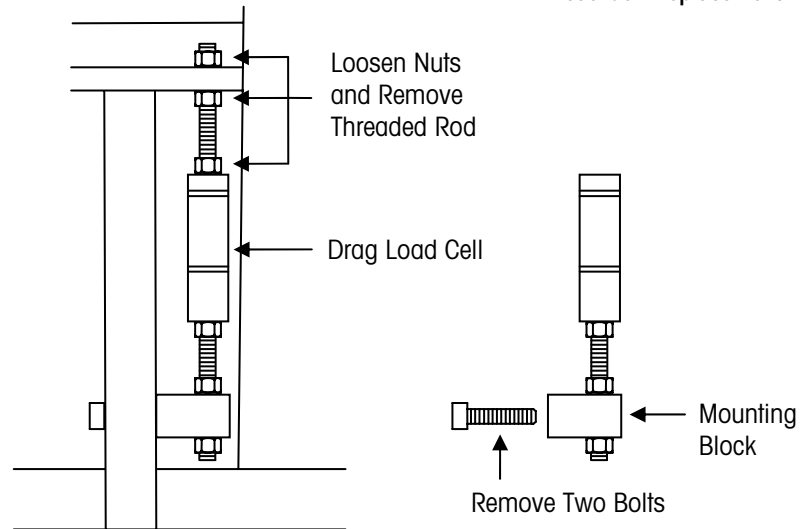

Figure 6-7: Drag Load Cell Assembly
18. Loosen the three nuts on the threaded rod that anchors the load cell to the upper carriage mount (see Figure 6-7). Be careful not to turn the load cell while loosening the nuts. Hold the load cell in position, and turn the nuts with a wrench.
1. Screw the threaded rod that is connected to the lower mounting block into the hole at the bottom of the new load cell (see Figure 6-7). Make sure that the end of the threaded rod does not extend into the gap in the load cell.
17. Bolt the lower mounting block to the carriage and tighten the jam nuts (see Figure 6-7).